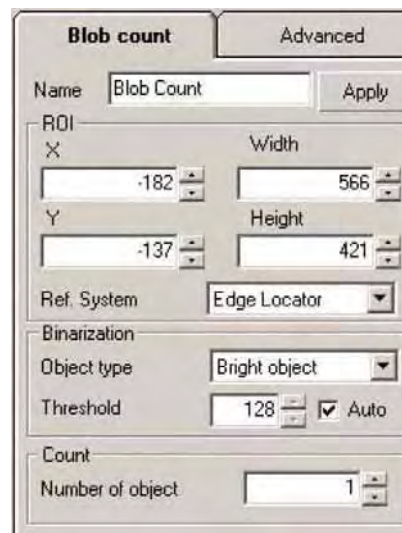

Figure 14
- Select the *Edge locator* used previously as the reference system (Figure 14). In this manner the *Blob count* position is relative to the edge position identified by the *Edge locator*.